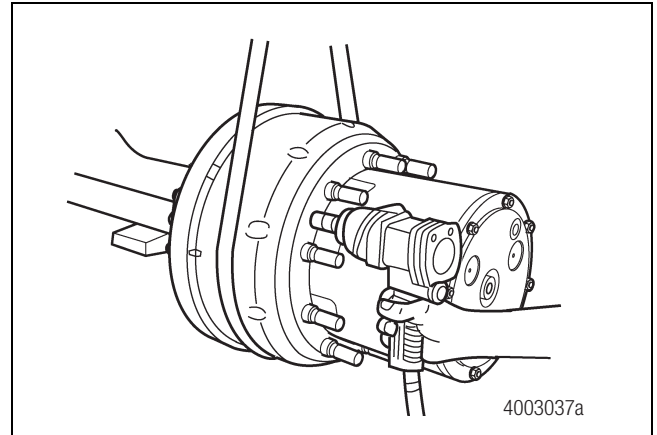

Figure 3.1
6. Use a 16 mm socket to remove the five capscrews that secure the brake drum. Figure 3.1.